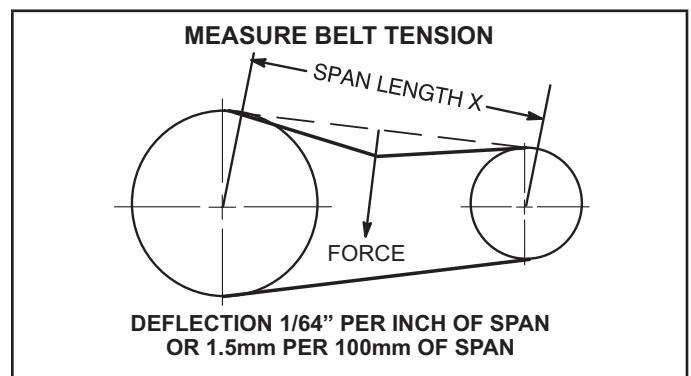

FIGURE 14
- 1 - Measure span length X. See FIGURE 14.